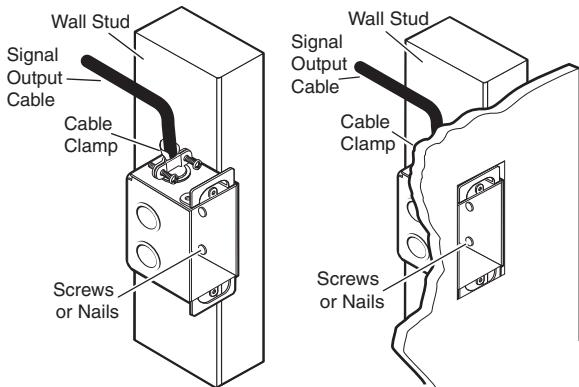

Figure 2 — Installing the wall box
- Secure the wall box with nails or screws, leaving the front edge flush with the outer wall or furniture surface. See figure 2.